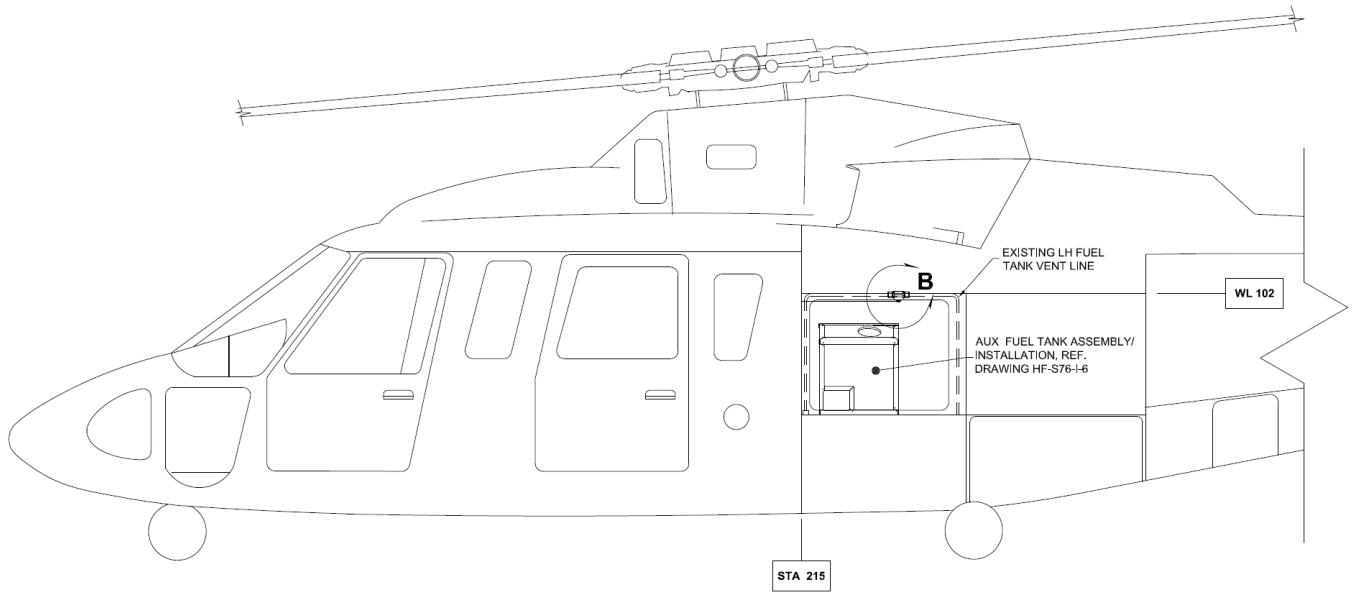

Figure 5
11. Install MS20819-12D sleeve and AN818-12D nut to each section of existing vent line and flare cut ends of vent line tube as detailed in figure 5.